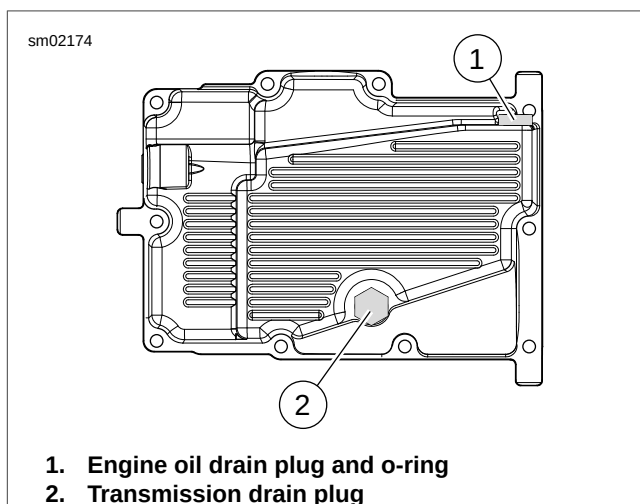

Figure 1-19. Oil Pan
2. See Figure 1-19. Remove transmission drain plug and drain lubricant into a suitable container.